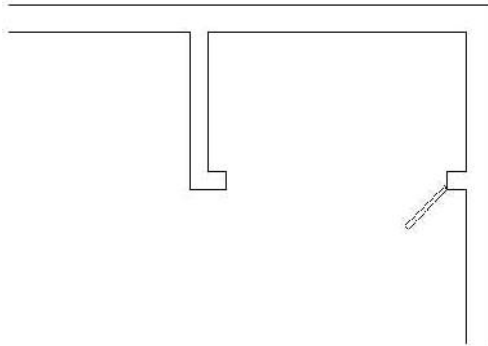

FIGURE 4.74: The first closet door panel is rotated.
7. Type **-45 \downarrow** . The door rotates 45° (see Figure 4.74), and the ROTATE command ends.